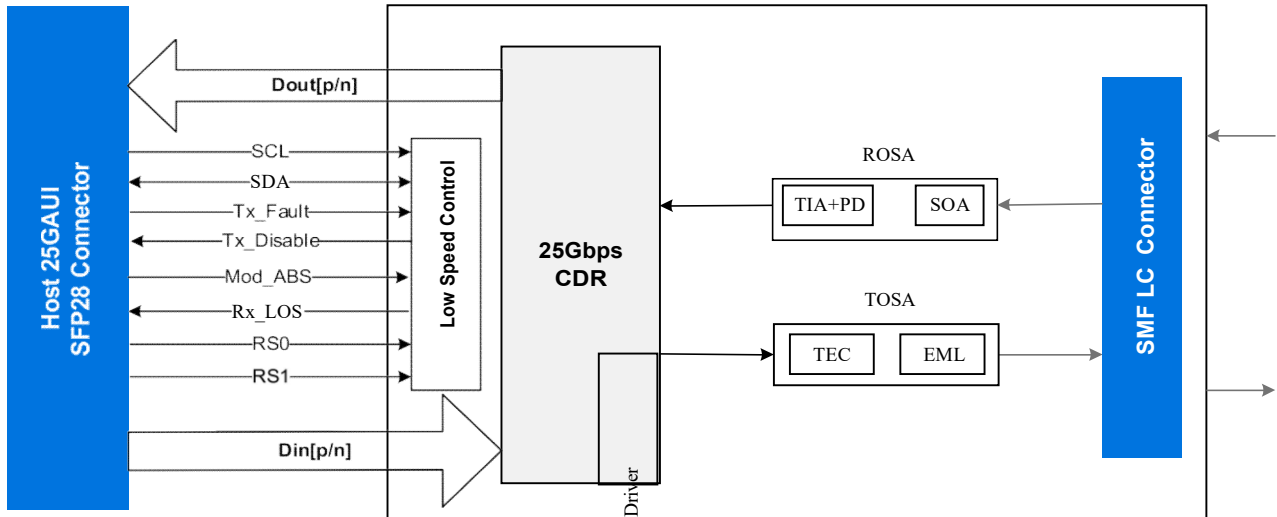

Figure 1: Transceiver Block Diagram
As shown in Figure 1, the transmitter path of the transceiver contains a 25GAUI electrical input with equalization (EQ) block, integrated EML driver, EML laser and diagnostic monitor. The transmitter section uses a wavelength of 1300nm EML, it's a class 1 laser compliant according to International Safety Standard IEC 60825.
As shown in Figure 1, the receiver path of the transceiver contains an SOA, PIN photodiode, trans-impedance amplifier (TIA), 25GAUI compliant electrical output block. The receiver section is integrated with SOA and PIN-TIA which enable the high sensitivity capability for the Rx side.